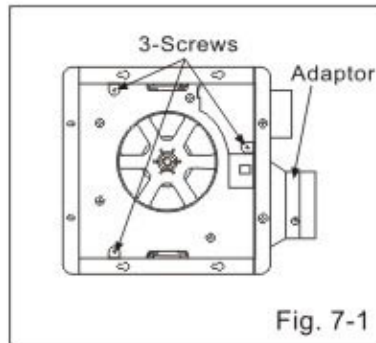

Fig. 7-1
1. Loosen 3 screws (but do not remove them from blower). (Fig.7-1)